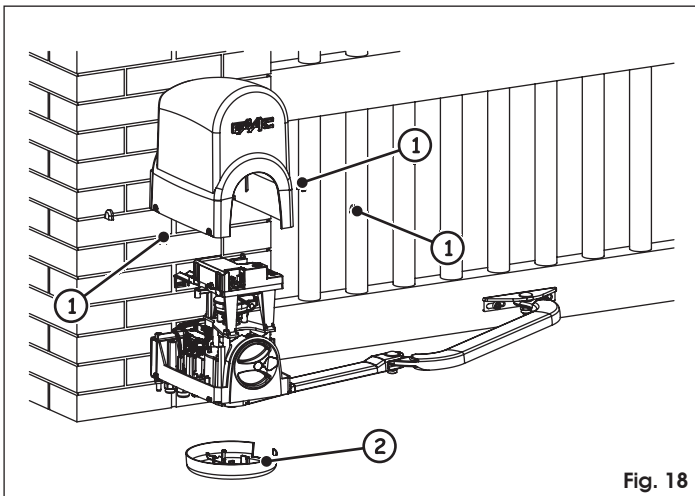

Fig. 18
- Re-locate the upper covering housing, tighten the securing screws and position the four covering plugs fig. 18 ref. ①.
- Position the lower housing as shown in fig. 18 ref. ②.